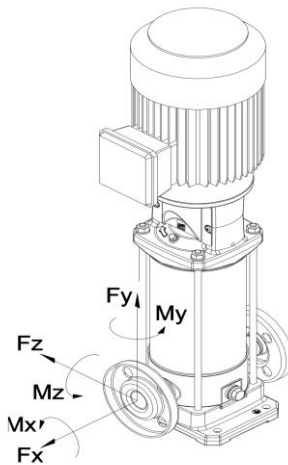

Figure 4. Flange Loading
C. FLANGE LOADING. Refer to Table 3 for allowable strain on the flange and Table 4 for allowable torque on the flange. Refer to Figure 4 for flange loading illustration.